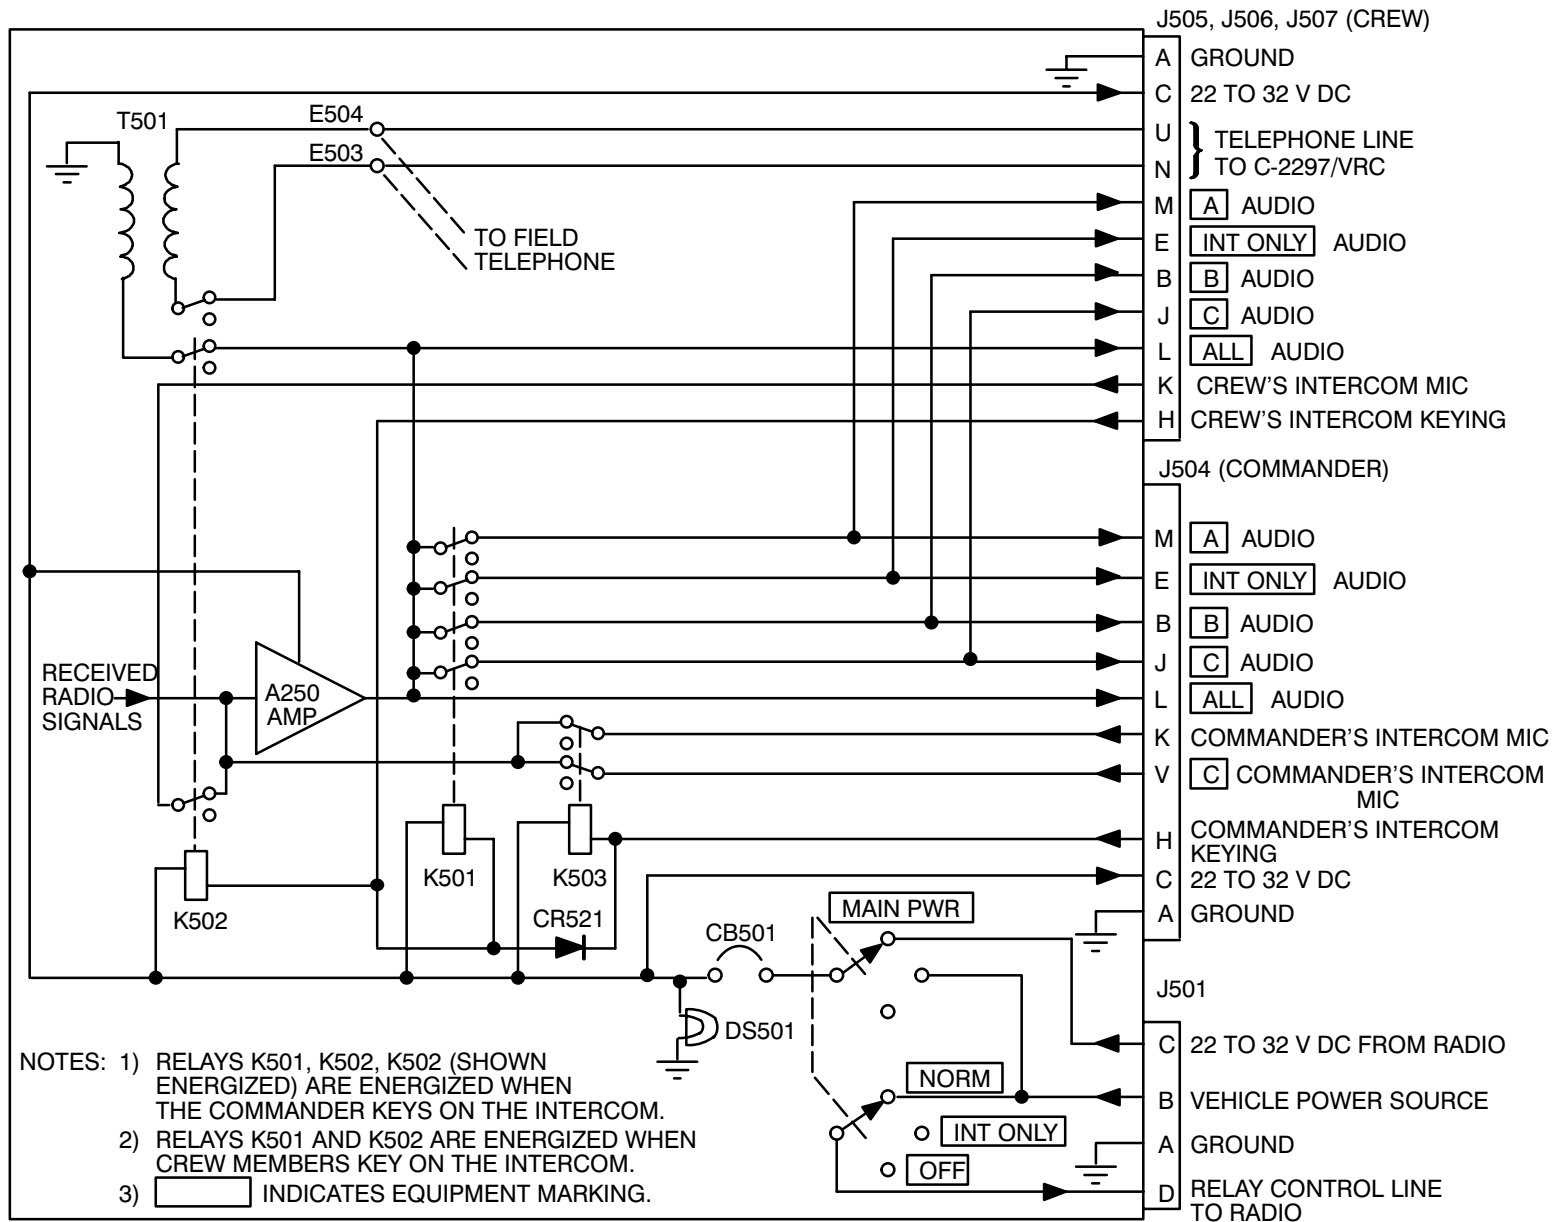

Figure 1-1. AM-1780/VRC DC Power and Intercom Paths
- (3) **Functions of the MAIN PWR Switch.** This switch has three positions: NORM, INT ONLY, and OFF.
- (4) **INT ACCENT.** When set to ON, the audio signals from the radios are reduced, making the intercom sound louder.
- (5) **RADIO TRANS.**
- (6) **AM-1780 Power, Intercom Keying, and Voice Path.** Refer to Figure 1-1.